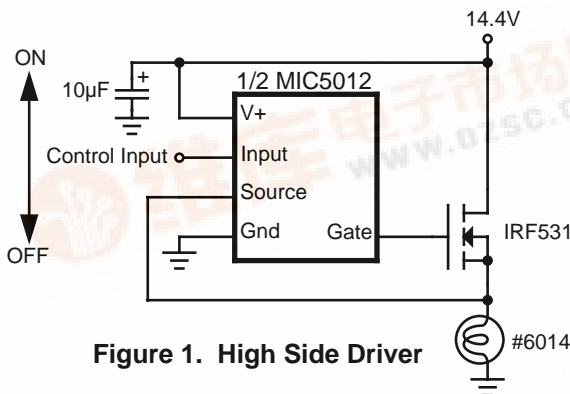
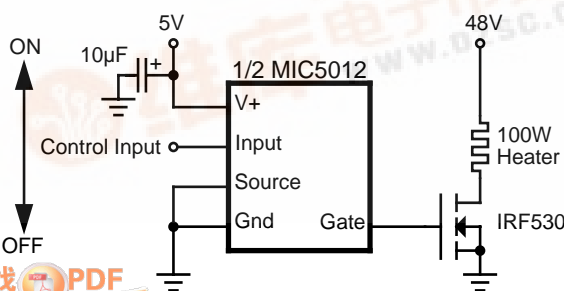

Figure 1. High Side Driver
Figure 2. Low Side Driver
The MIC5012 is suited for use with standard MOSFETs in high- or low-side driver applications. In addition, the MIC5012 works well in applications where, for faster switching times the supply is bootstrapped from the MOSFET source output. Low voltage, high-side drivers (such as shown in Figure 1) are the slowest; their speed is reflected in the gate turn-on time specifications. The fastest drivers are the low-side and bootstrapped high-side types (Figures 2 and 4). Load current switching times are often much faster than the time to full gate enhancement, depending on the circuit type, the MOSFET, and the load. Turn-off times are essentially the same for all circuits (less than  $10\mu\text{s}$  to  $V_{\text{GS}} = 1\text{V}$ ). The choice of one topology over another is based on a combination of considerations including speed, voltage, and desired system characteristics.
**High-Side Driver** (Figure 1). The high-side topology works well down to  $V^+ = 7V$  with standard MOSFETs. From 4.75 to 7V supply, a logic-level MOSFET can be substituted since the MIC5012 will not reach 10V gate enhancement (10V is the maximum rating for logic-compatible MOSFETs).
**Low-Side Driver** (Figure 2). A key advantage of the low-side topology is that the load supply is limited only by the MOSFET  $BV_{DSS}$  rating. Clamping may be required to protect the MOSFET drain terminal from inductive switching transients. The MIC5012 supply should be limited to 15V in low-side topologies; otherwise, a large current will be forced through the gate clamp zener. The switching speed to 10V enhancement is 300 $\mu$ s driving 1nF on a 5V supply. On a 15V supply the turn-on time is less than 2 $\mu$ s to 10V